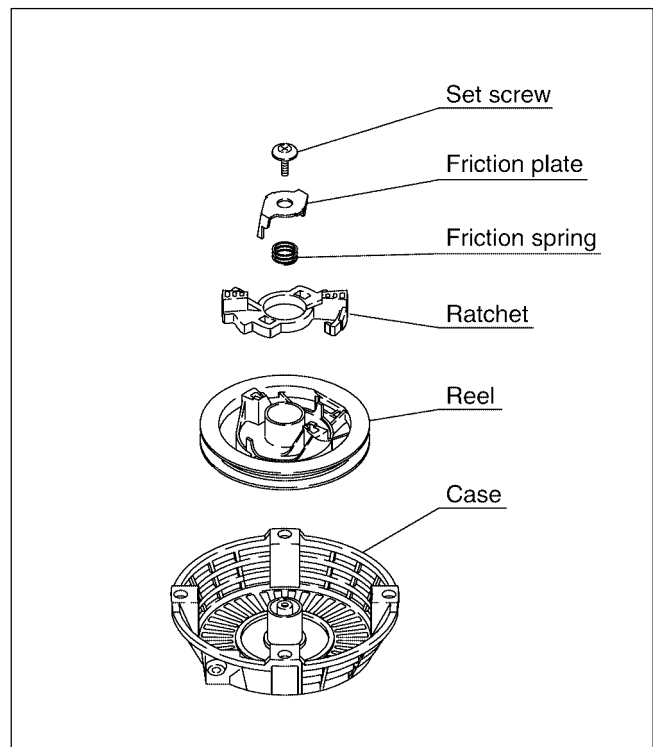

Fig. 10-11
#### (2) Remove the component parts (Fig.10-11)
#### (3) Remove the reel. (Fig.10-11)